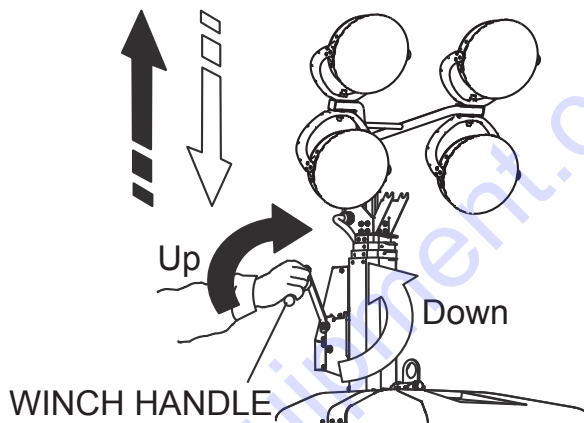

**Figure 13. Unlocking the Shackle**
1. Unlock the shackle (Figure 13).